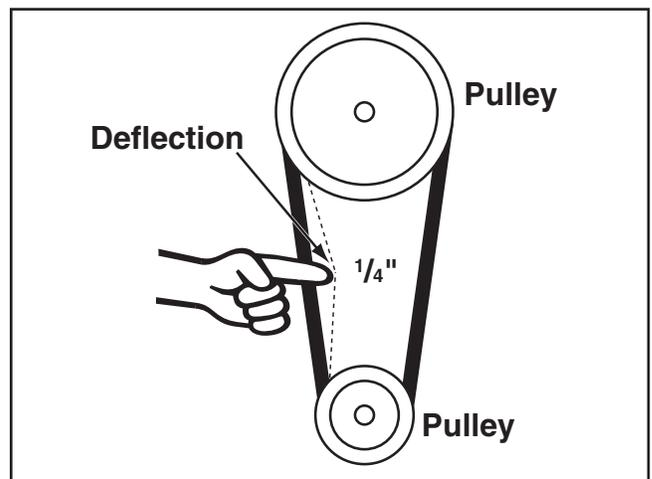

Figure 67. Checking V-belt tension.
4. Tighten belt by replacing motor bracket handle. When belt is properly tensioned, there should be approximately $\frac{1}{4}$ " of deflection in the center of the belt when you press it with your thumb, as shown in **Figure 67**.